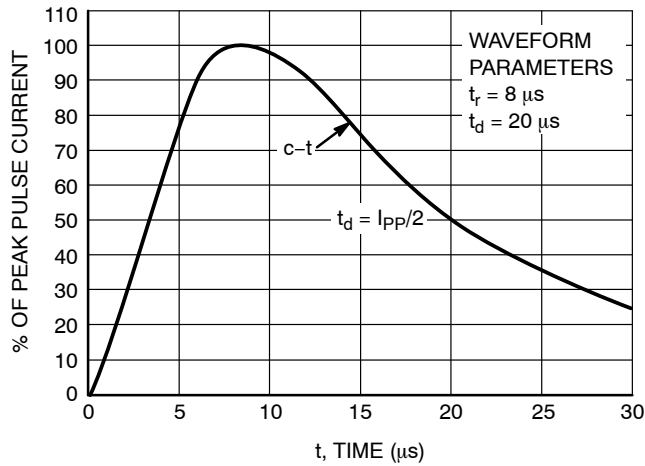

Figure 1. Pulse Waveform, $8 \times 20\mu\text{s}$
1. Non-repetitive current pulse per Figure 1.
4. Pulse waveform per Figure 1.